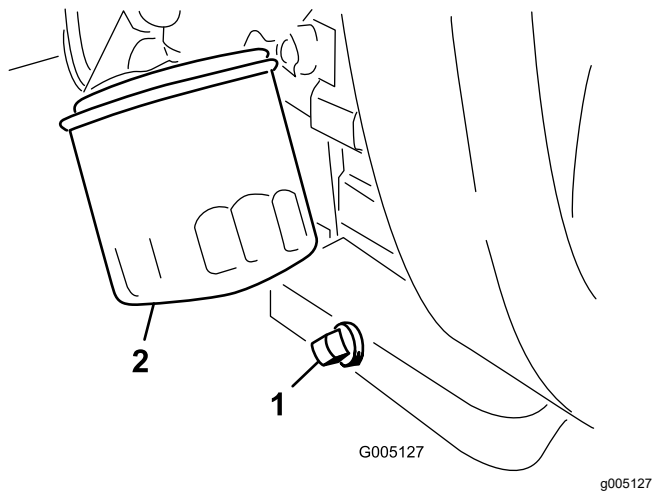

Figure 31
1. Remove the drain plug (Figure 31) and let the oil flow into a drain pan.
2. Clean the threads of the drain plug, apply PTFE sealant, and install the drain plug (Figure 31).
3. Remove the oil filter (Figure 31).